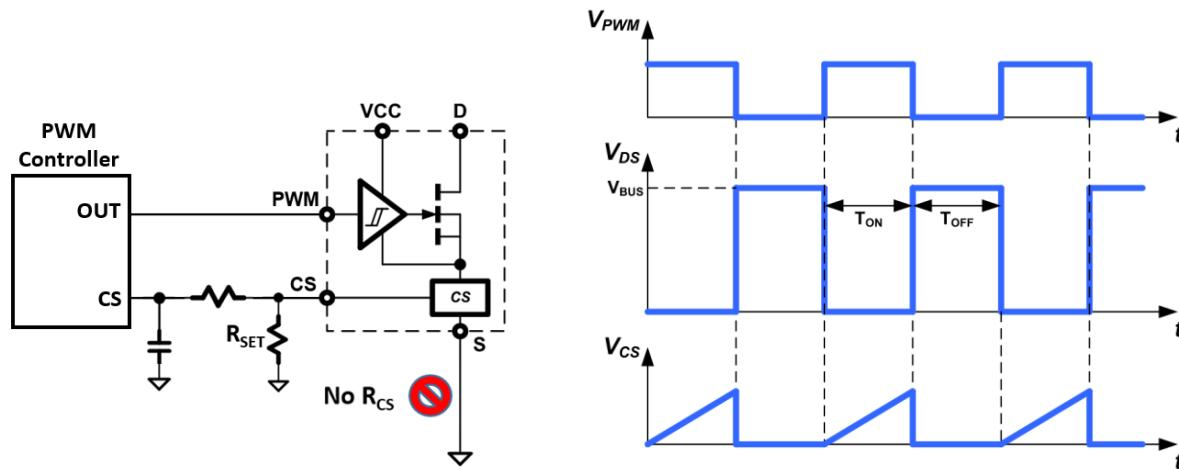

Fig. 25. Current sensing circuit and timing diagram
For many applications it is necessary to sense the cycle-by-cycle current flowing through the power FET. Existing current sensing solutions include placing a current sensing resistor in between the source of the power FET and PGND. This resistor method increases system conduction power losses, creates a hotspot on the PCB, and lowers overall system efficiency. To eliminate this external resistor and hotspot, and increase system efficiency, this IC includes GaNSense™ Technology for integrated and accurate loss-less current sensing. The current flowing through the internal GaN power FET is sensed internally and then converted to a current at the current sensing output pin (CS). An external resistor (R_{SET}) is connected from the CS pin to the S pin and is used to set the amplitude of the CS pin voltage signal (Fig. 25). This allows for the CS pin signal to programmed to work with different controllers with different current sensing input thresholds.